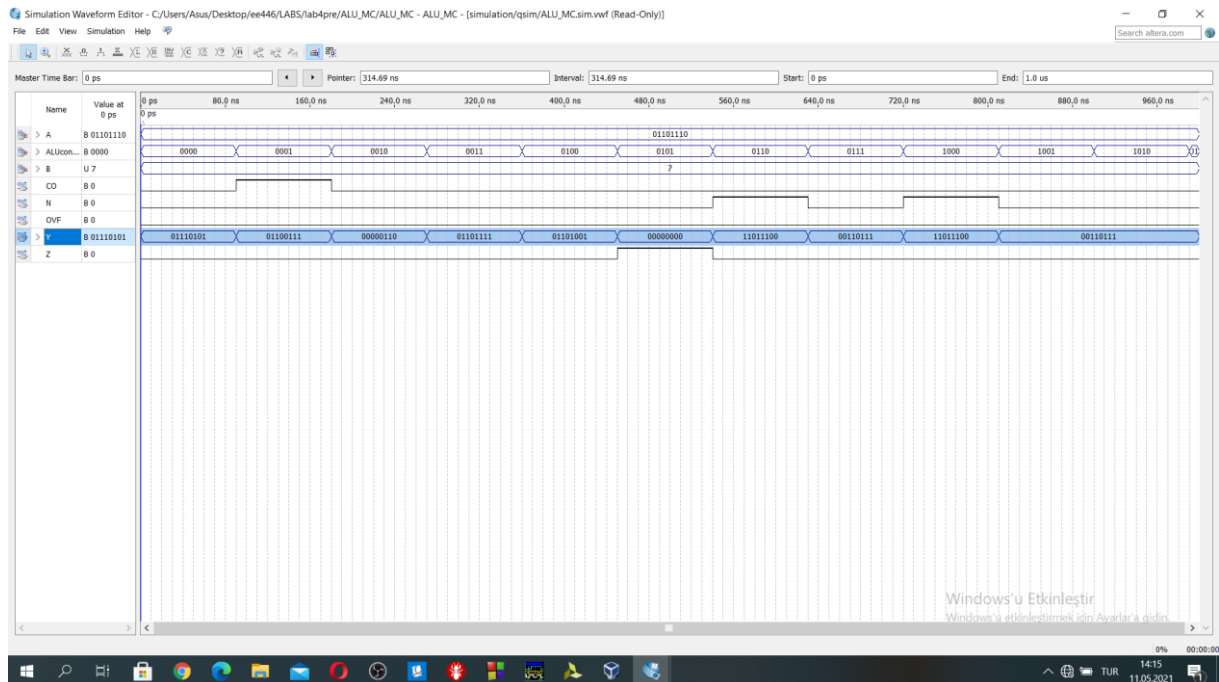

Figure 1: ALU simulation
In Figure 1, the simulation result of the ALU exists.
4'b0000: //add A (A)01101110+(B)00000111=01110101 matches with Y in the Figure 1(result)
4'b0001: //subt a-b (A)01101110-(B)00000111=01100111 matches with Y in the Figure 1(result)
4'b0010: //and (A)01101110&(B)00000111=00000110 matches with Y in the Figure 1(result)
4'b0011: //or (A)01101110|(B)00000111=01101111 matches with Y in the Figure 1(result)
4'b0100: //xor (A)01101110+(B)00000111=01101001 matches with Y in the Figure 1(result)
4'b0110: //rol (A)01101110=11011100(Y) matches with Y in the Figure 1(result)
4'b0111: //ror (A)01101110=00110111(Y) matches with Y in the Figure 1(result)
4'b1000: //shift left lsl (A)01101110=11011100(Y) matches with Y in the Figure 1(result)
4'b1001: //shift right lsr (A)01101110=00110111(Y) matches with Y in the Figure 1(result)
4'b1010 //arithmetic shift right (A)01101110=00110111 (Y) matches with Y in the Figure 1(result)